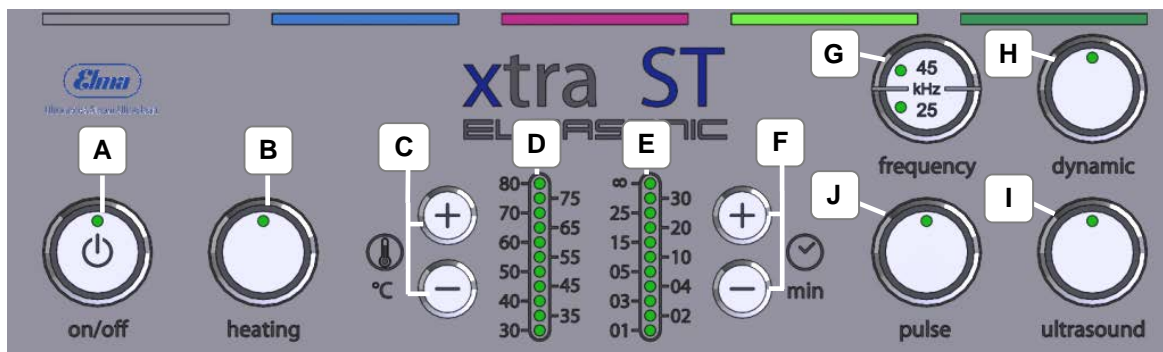

Fig. 4.10 Operating panel
1. Press the key *on/off* (Fig. 4.10.A), the green LED in the key is lighted.
2. Press the key *heating* (Fig. 4.10.B), the green LED in the key is lighted.
3. Set the required cleaning temperature by pressing the +/- keys (Fig. 4.10.C), the LED indicating the set temperature is lighted. The heating process is started and the actual temperature is indicated by the flashing LED (Fig. 4.10.D).
1. Activate the ultrasound at the key *ultrasound* (Fig. 4.10.I). The green LED in the key is lighted.
2. Set the required frequency to 45 kHz at the selector key *frequency* (Fig. 4.10.G). The green LED in the key is lighted.
3. Press the key *pulse* (Fig. 4.10.J). The green LED in the key is lighted.
The ultrasonic frequency is set by means of the selector key „*frequency*“. (Fig. 4.10.G.). The following two frequencies are available:
Press both keys *ultrasound* and *pulse* (Fig. 4.10.H). The green LED in the key indicates the operation in *pulse* mode. *pulse* can be switched on or off as required during operation.